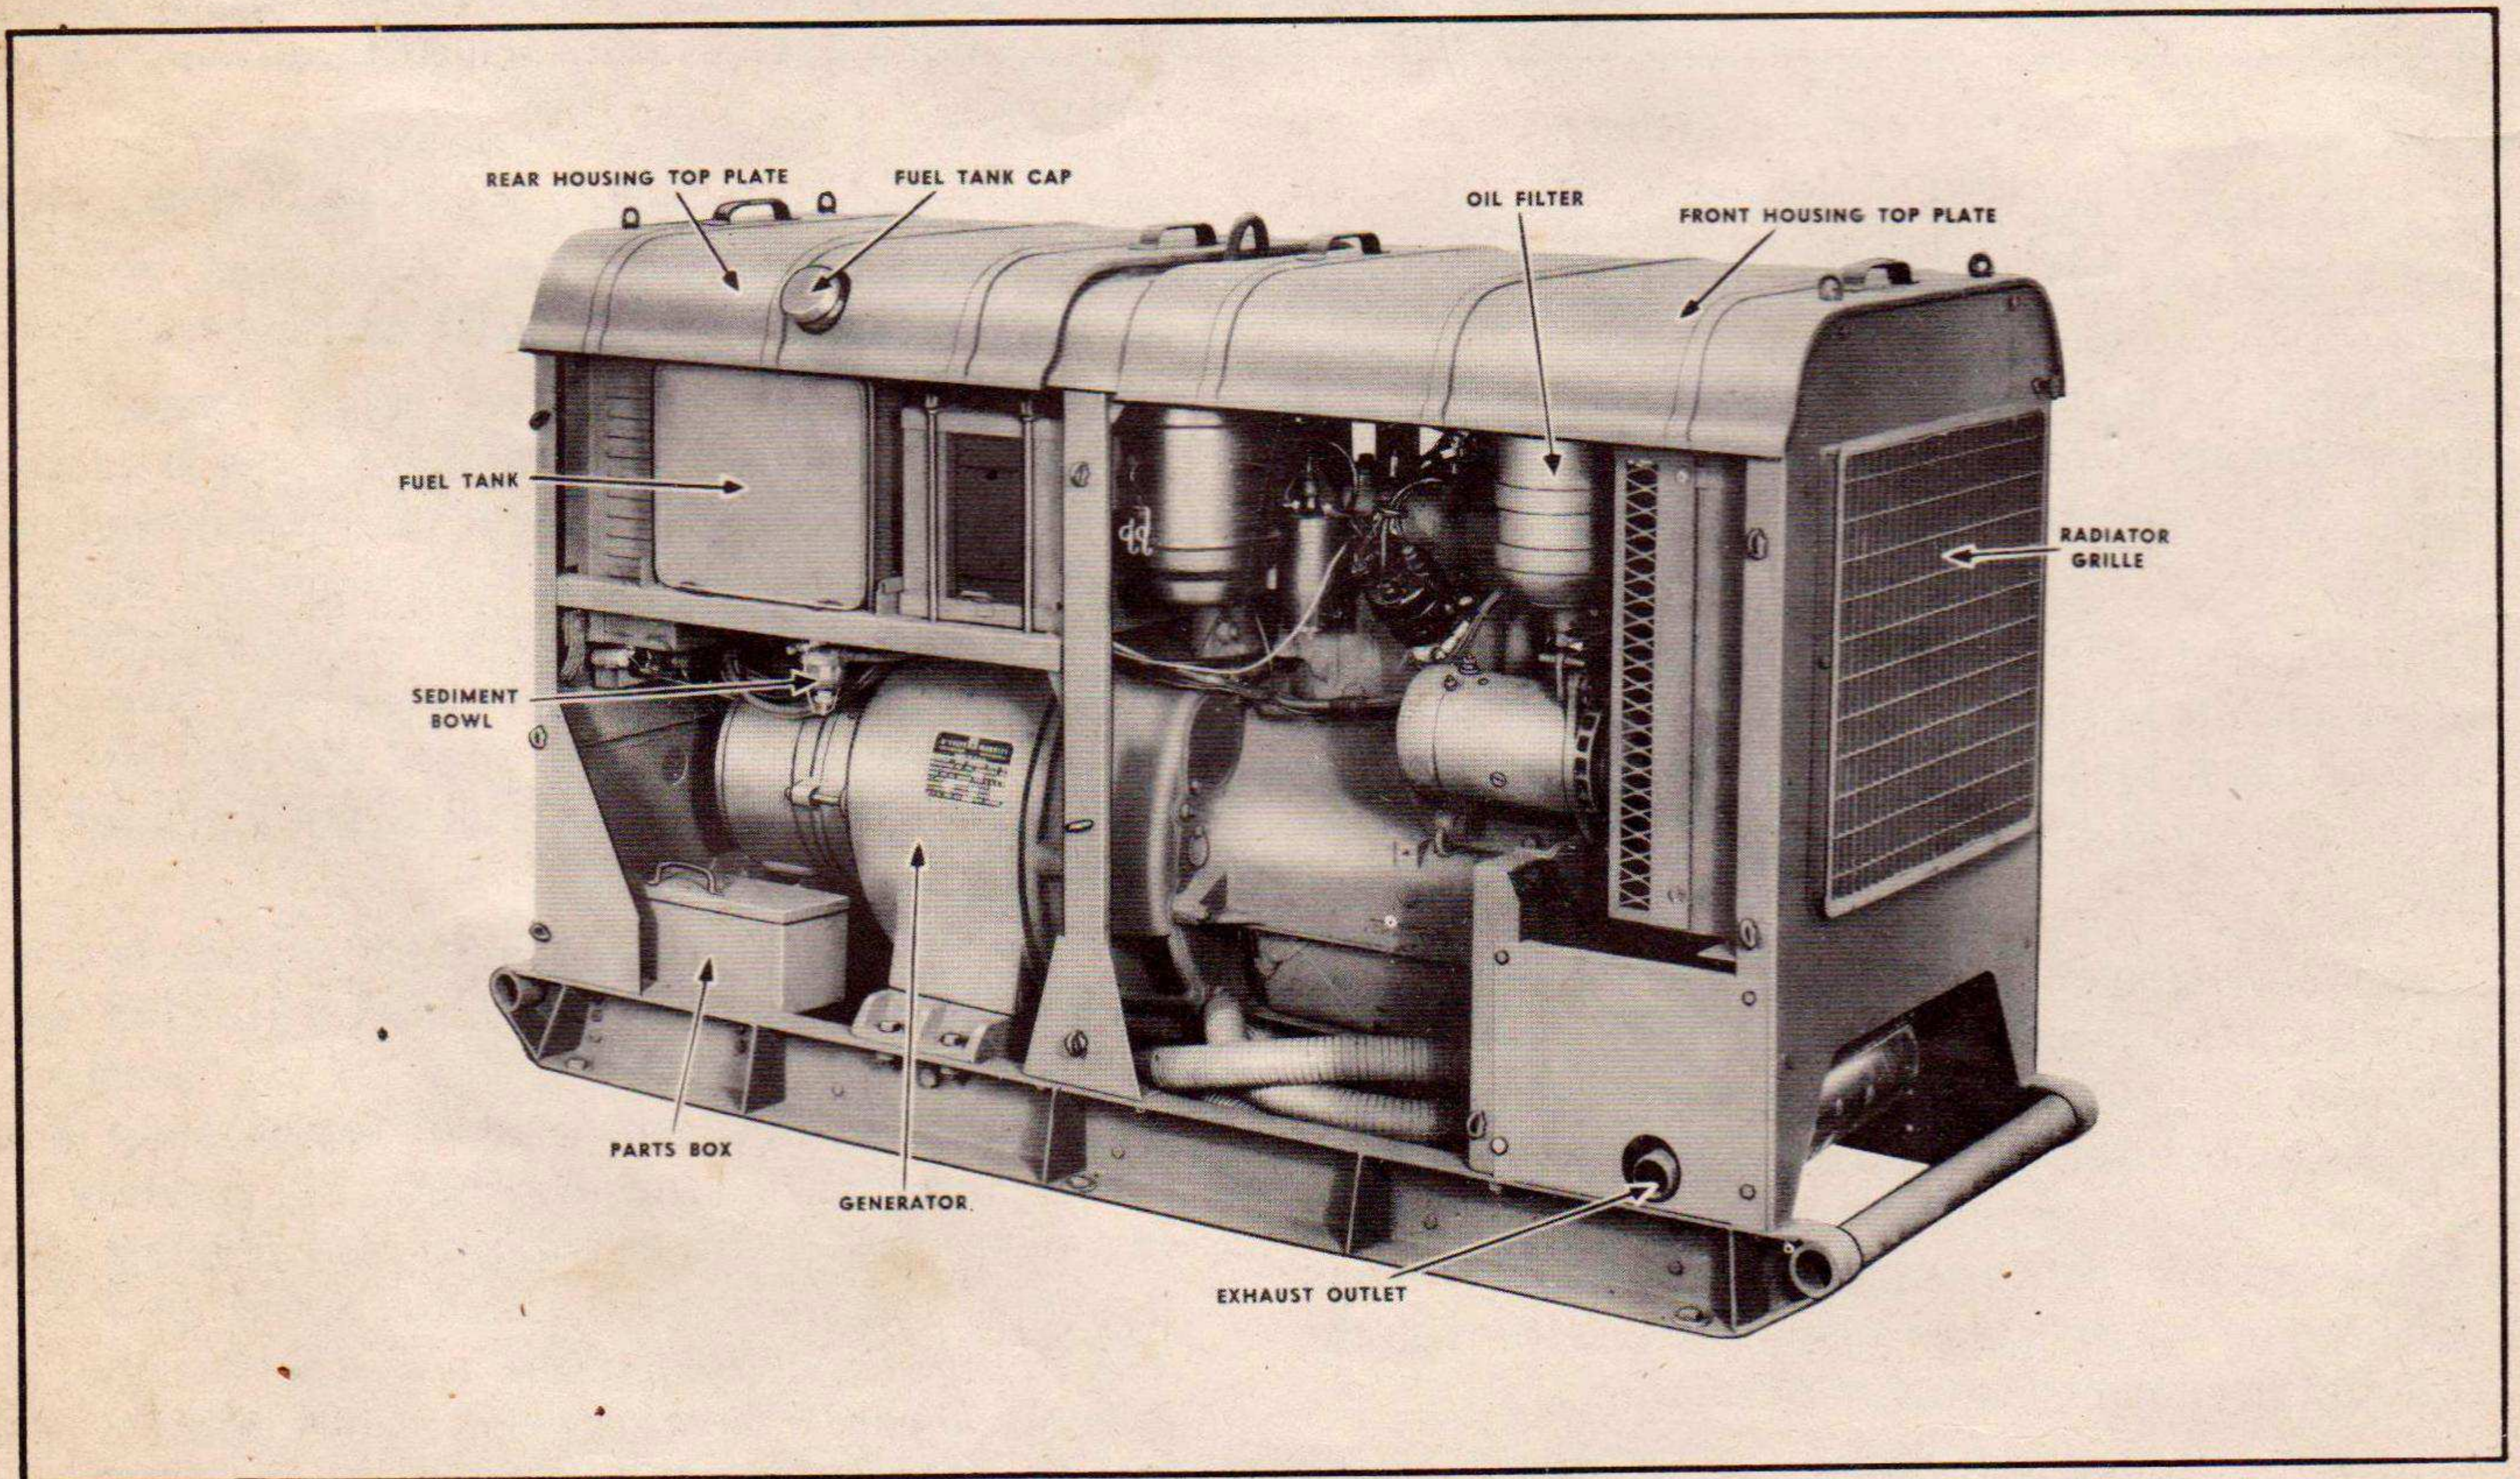

FIG. 2 POWER UNIT PE-95-G (LEFT SIDE)
a. Purpose.—The generator supplies the alternating-current power output of the power unit. This generator assembly really consists of two individual generators, the alternator and the exciter, (Fig. 2).